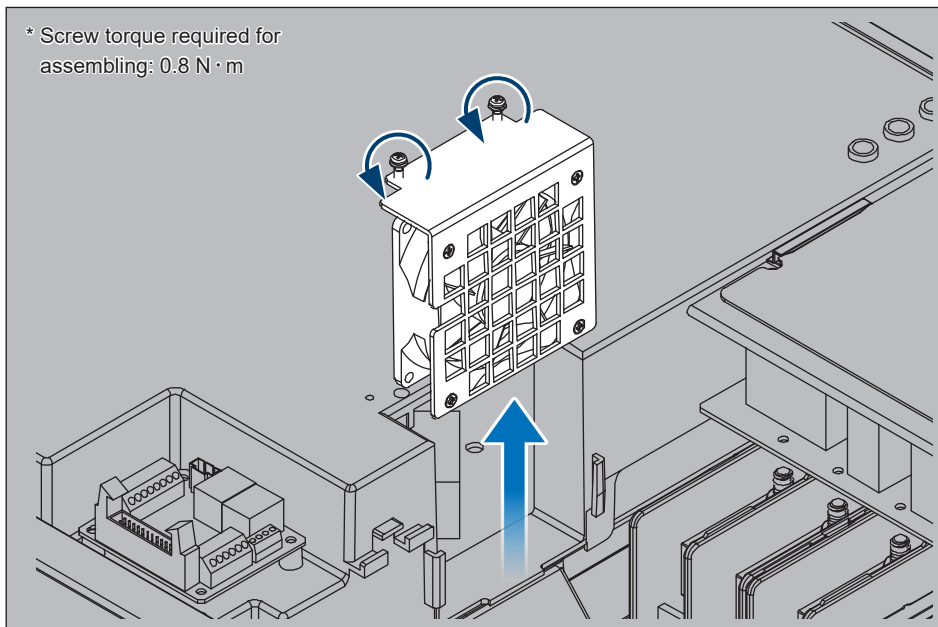

Figure 5-16: Take off the internal fan 2
- (2) Loose 2 self-retaining screws and remove the fan cabinet. **(Figure 5-16)**